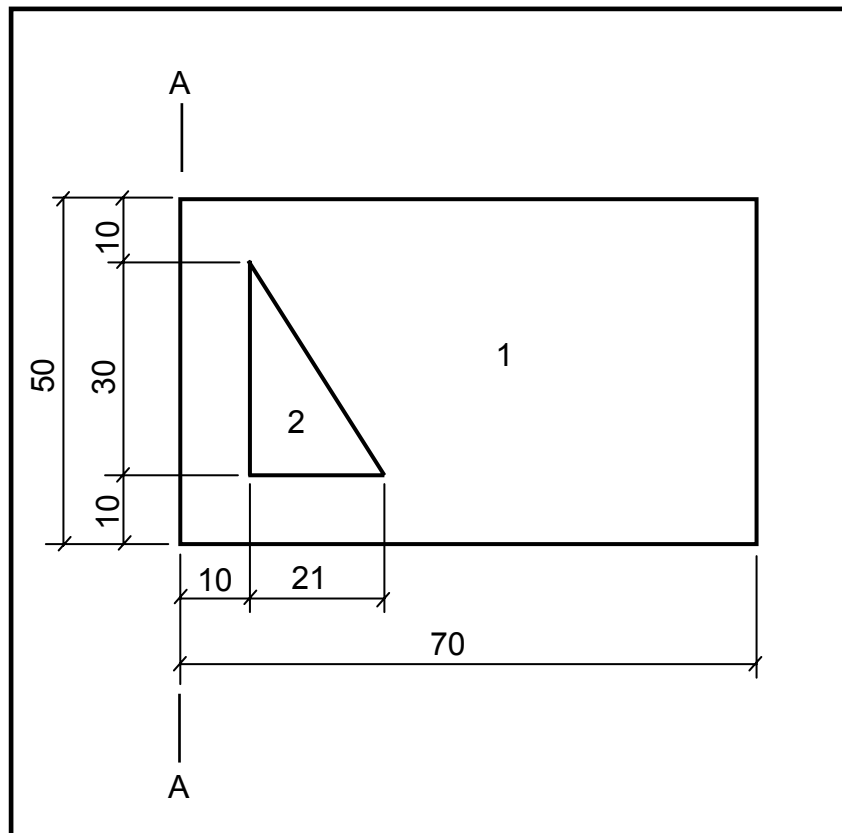

FIGURE 5.2
- 5.2 FIGURE 5.2 below shows the lamina of a figure with a triangular hole in it. All measurements are in mm.